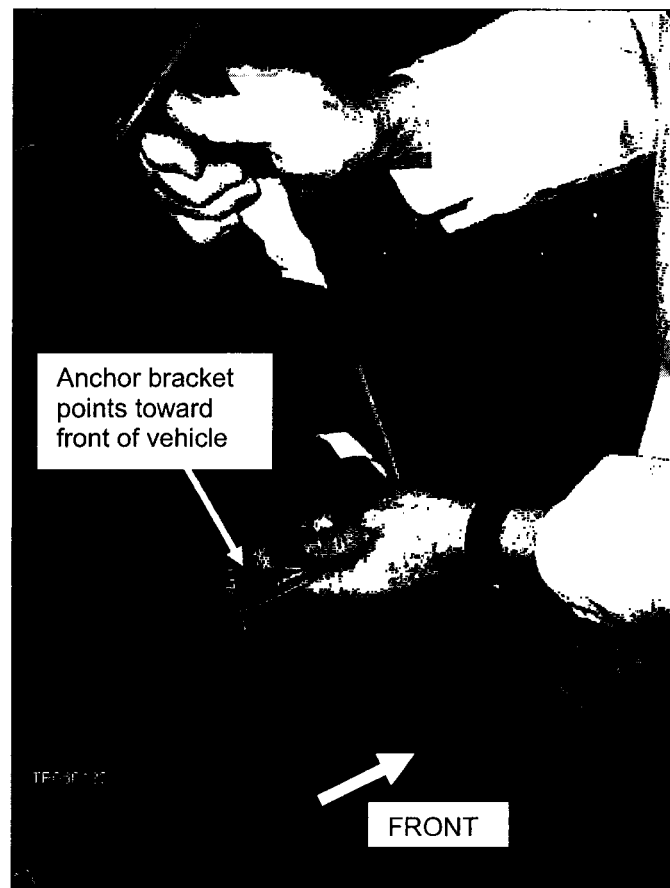

Figure 8
7. Re-install the seat belt to the vehicle, making sure the metal anchor bracket points towards the front of the vehicle (see Figure 8).